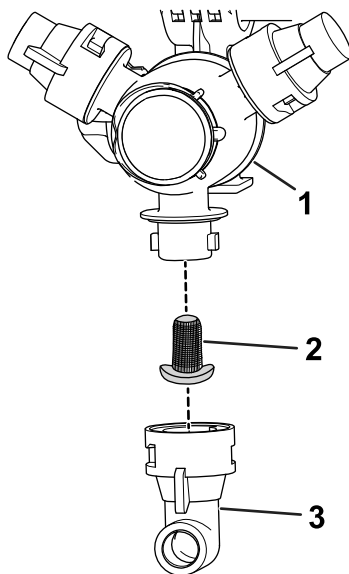

Figure 90
3. Remove the nozzle filter (Figure 90).
5. Install the nozzle filter (Figure 90).
6. Install the nozzle onto the spray turret (Figure 90).
2. Remove the nozzle from the spray turret (Figure 90).